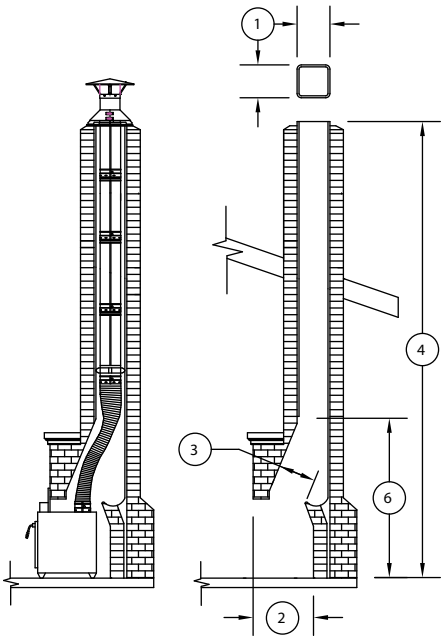

Figure 1
5. Determine if your setup is an open hearth (**Figure 1**) or tee installation (**Figure 2**). Also determine the available size of your chimney (**Figure 2a**) and the corresponding allowable DuraLiner size. (**Chart 2a**)
6. If you have an open hearth setup, verify your flue size, and the fireplace opening and depth before you purchase your appliance and reliner. (**See Figure 1**)
9. Chimney flue size (**Figure 1**) determines the size top you select. (See catalog for details).
- Follow these basic assembly instructions when installing DuraLiner in the open hearth installation (**Figure 1**). For tee installations, refer to the Tee Installation section of these instructions. The oval liner fits together in the same manner as the round liner.
STEP SIX: Connect stove or insert to DuraLiner. When connecting DuraLiner to top-exiting appliance outlets, follow this procedure. After stove or insert has been set in proper location, pull flex pipe down over Stove Connector and pop rivet or screw together. (See Figure 1) If the flex pipe does not provide sufficient height adjustment, further adjustment may be made by selecting a different set of holes on the DuraLiner Hanger at the top of the system. The Slip Connector will accommodate up to 10" adjustment.